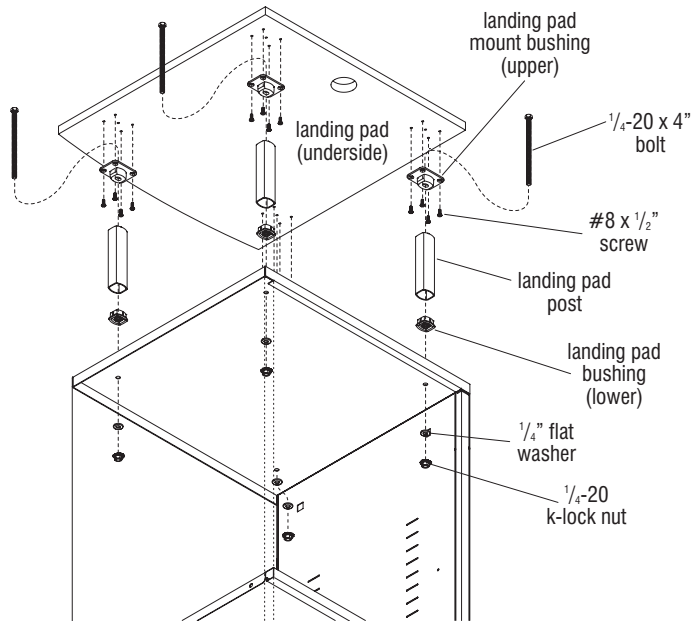

Figure 1
1. Locate the hardware pack for the Landing Pad and identify the parts by referencing Figure 1. Begin assembly by inserting four 1/4-20 x 4" bolts into four (upper) landing pad mount bushings. Secure the upper bushings to the underside of the landing pad as illustrated using four #8 x 1/2" screws (Figure 1).
2. Place a lower landing pad post bushing into the bottom of each landing pad post and press the four landing pad posts/lower bushings onto the installed upper landing pad mount bushing and 4" bolt (Figure 1).
3. Carefully position the landing pad with installed bushings, posts & bolts such that the four bolts insert through the four mounting holes in the top of the cabinet (Figure 1).
4. From inside the cabinet, locate the 1/4-20 x 4" bolts inserted through the top and place a 1/4" flat washer and 1/4-20 k-lock nut onto each bolt. Tighten nuts to secure landing pad to cabinet top (Figure 1).